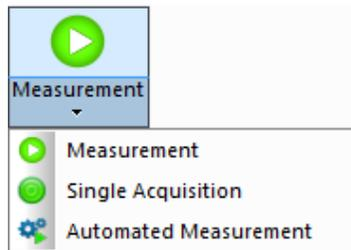

Figure 4-5: Measurement Buttons
- 12 Click the **Measurement** button on the Ribbon (see Figure 4-5) and then select **Measurement**. The events that now occur are described in What Happens During a Scan Measurement on page 4-6.